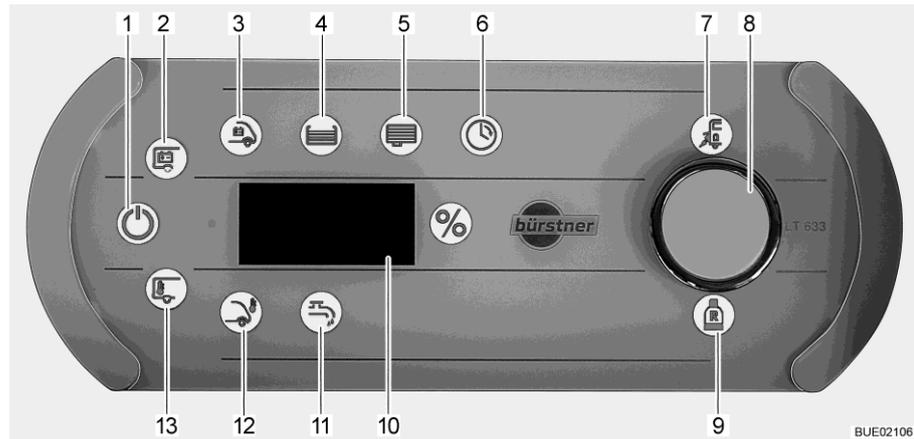

Fig. 185 Panel LT 633
The mains check symbol (Fig. 185,7) lights up when the vehicle is being supplied with 230 V line voltage. The batteries are charged.
Switching on: ■ Briefly press the rotary knob (Fig. 185,8). The 12 V ON symbol (Fig. 185,1) is lit. When the 12 V ON living area battery (Fig. 185,2) symbols flash three times, the power supply has been deactivated.
Cancelling deactivation: ■ Press and hold rotary knob (Fig. 185,8) for approx. 5 seconds. The living area battery symbol (Fig. 185,2) is flashing and "On" appears on the display (Fig. 185,10).
■ Release the rotary knob. The 12 V ON symbol (Fig. 185,1) is lit. The power supply has been switched on.
- Turn the rotary knob until the water pump symbol (Fig. 185,11) lights up. The current switching state ("On" or "OFF") is shown on the display.
The water pump symbol (Fig. 185,11) lights up when the water pump is switched on.
- Turn the rotary knob until the living area battery symbol (Fig. 185,2) lights up. The battery voltage of the living area battery appears for approx. 20 seconds on the display (e.g. "13,8U" for 13.8 Volt).
- Turn the rotary knob until the starter battery symbol (Fig. 185,3) lights up. The battery voltage of the starter battery appears for approx. 20 seconds on the display.
- Turn the rotary knob until the water tank symbol (Fig. 185,4) lights up. The symbol "%" is lit. The fill level of the water tank appears for approx. 20 seconds on the display.
- Turn the rotary knob until the waste water tank symbol (Fig. 185,5) lights up. The symbol "%" is lit. The fill level of the waste water tank appears for approx. 20 seconds on the display.
The reserve gas bottle symbol (Fig. 185,9) lights up when the reserve gas bottle is in use.
- Turn rotary knob until the internal temperature symbol (Fig. 185,13) or the external temperature symbol (Fig. 185,12) is lit. The selected temperature appears on the display.
- Turn the rotary knob until the clock symbol (Fig. 185,6) is lit.